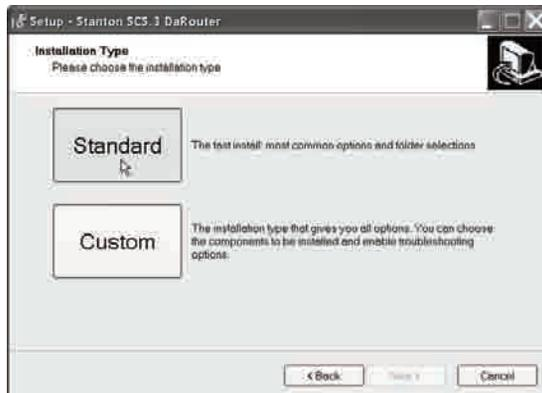

Figure 5.4
- Choose the *Installation Type* (Figure 5.4)